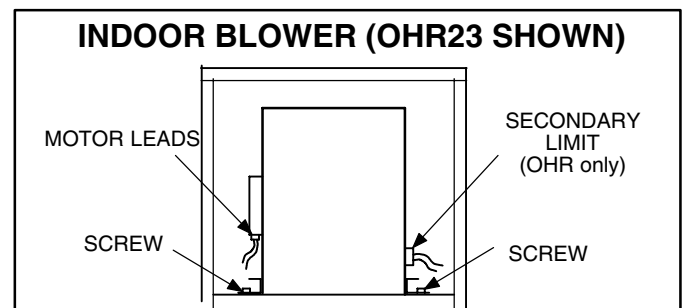

FIGURE 35
- 3- Remove two screws located in the front blower rails. See figure 35.